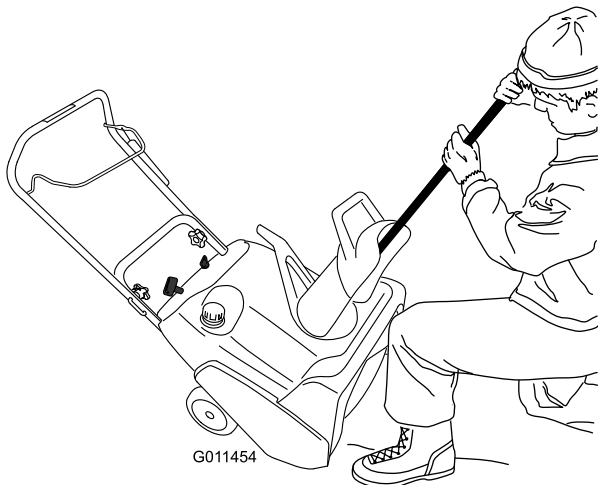

Figure 19
- Always use a clean-out tool, not your hands (Figure 19).